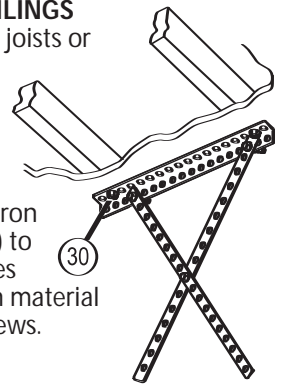

Figure 6 Mounting methods for open beam and finished ceilings
- B** Find location of ceiling joist or truss above where Opener Power Head will be and estimate type and quantity of materials needed for your installation (**Figure 6**).